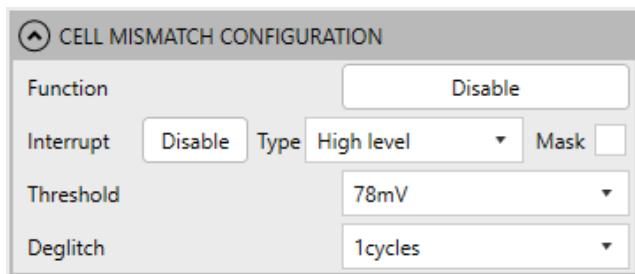

Figure 27: Cell Mismatch Configuration
23. Configure the mismatched cell parameters (see Figure 27).